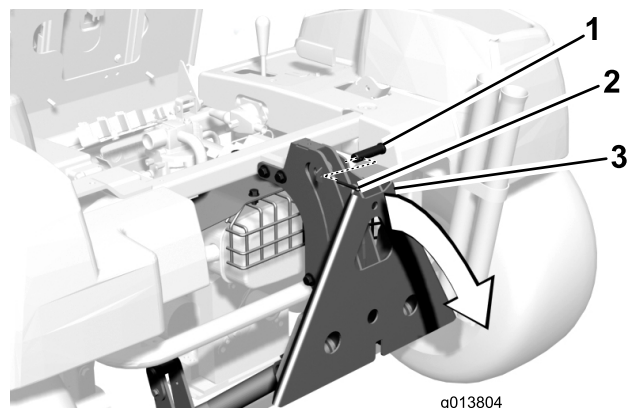

Figure 2
5. Remove the cotter pin and clevis pin securing the QAS adapter frame to the roller plate and rotate the adapter frame away from the machine (Figure 2).